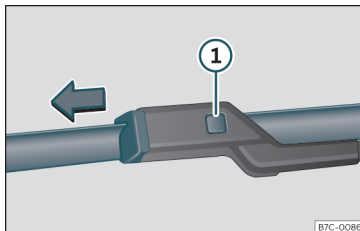

Fig. 68 Changing the windscreen wiper blades
- Press and hold release button >>> Fig. 68 ① and pull gently on the wiper blade in the direction of the arrow.